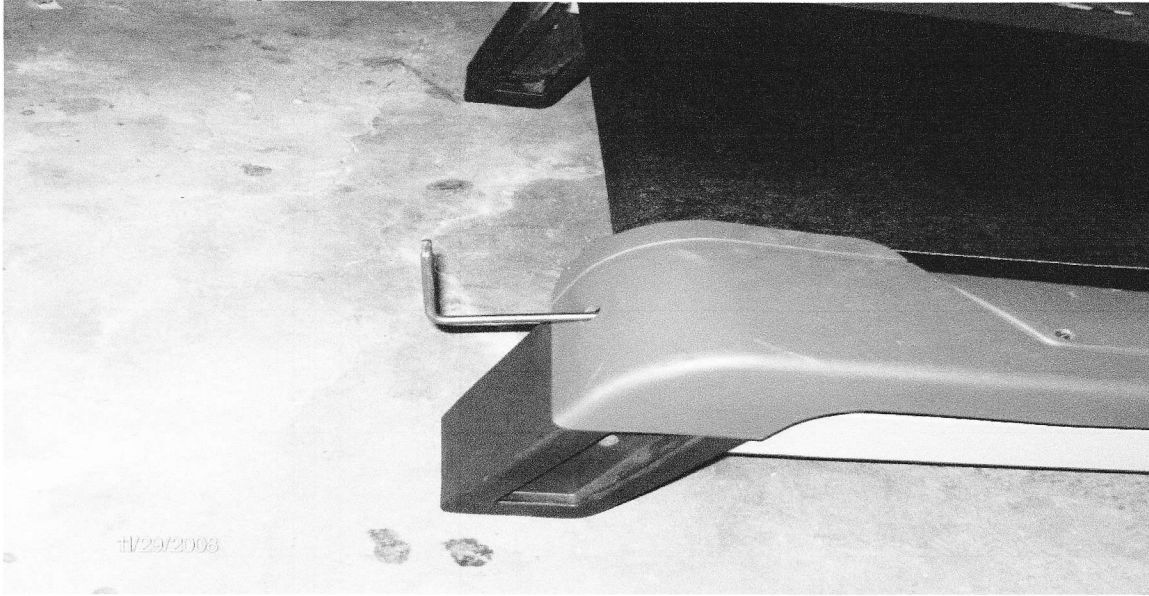

FIG 4.
- 4) **Back out the rear roller left adjustment screw almost out. Remove completely, the rear roller screw on the right side (fig 4).**